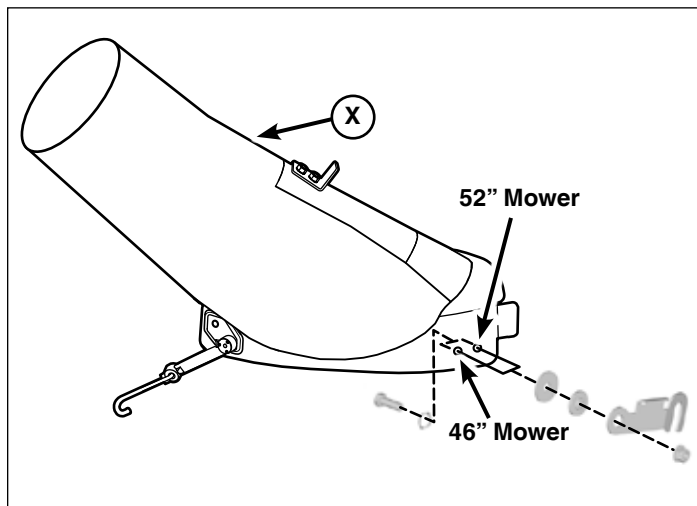

Figure 12
1. Make sure the latch hardware on the bagging boot (X, Figure 12) is in the correct hole for the deck sizes. If necessary, change location of the latch hardware.